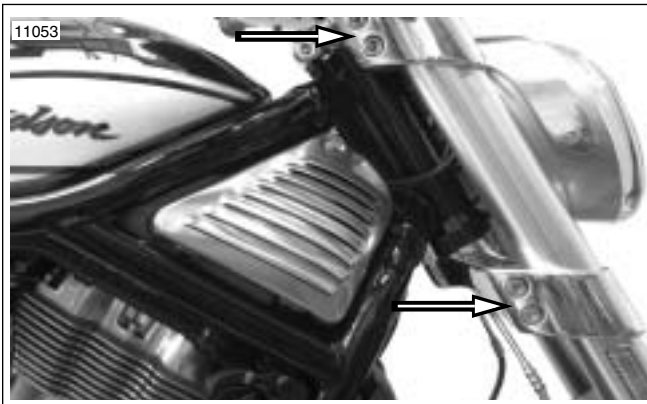

Figure 1-56. Triple Clamp Pinch Bolts
5. See Figure 1-56. Loosen triple clamp pinch bolts.